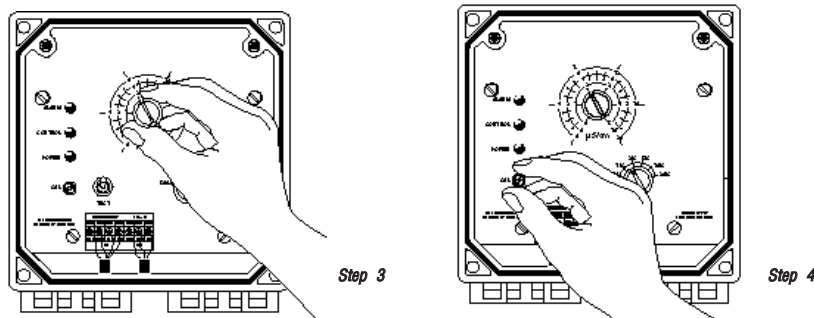

Fig. 7, System Calibration
3) Position the Trip Point Knob to the number on the range that matches the value you measured with the hand held meter in Step 2 (See Fig. 7, Step 3).
4) Adjust Cal Adjust knob (See Fig. 7, Step 4) until Control light comes on. Back off Cal Adjust knob until light just goes out. Your unit is now calibrated.